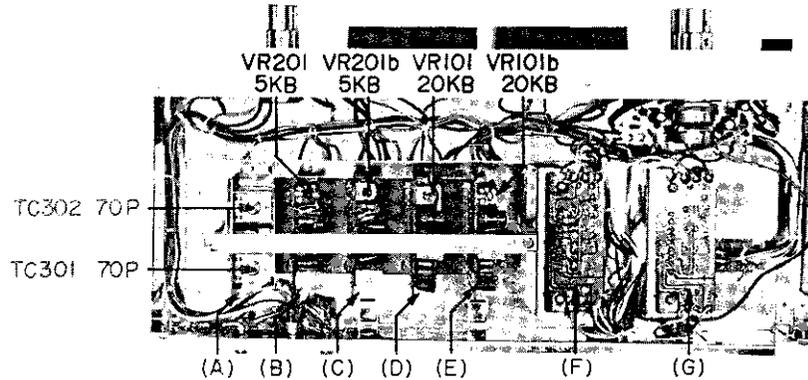

Fig. 16
- 4) Adjust the Playback Amp. P.C. Board playback level adjustment semi-fixed resistor VR101 50 k Ω (left ch.) and VR101b 50 k Ω (right ch.) shown in Fig. 16 so that the High Sensitivity V.T.V.M. indication is 4 dB (1.228V).
- 5) Set the Monitor Switch to SOURCE position and adjust Recording Amp. P.C. Board recording level adjustment semi-fixed resistors VR201 5 kB (left ch.) and VR201b 5 kB (right ch.) shown in Fig. 16 to obtain a Line output level of 4 dB.
- 3) Under these conditions, adjust OSC. P.C. Board frequency response adjustment trimmer capacitors TC301 70P (left ch.) and TC302 70P (right ch.) shown in Fig. 16 to obtain an equally flat frequency response at 1,000 Hz and 10,000 Hz.